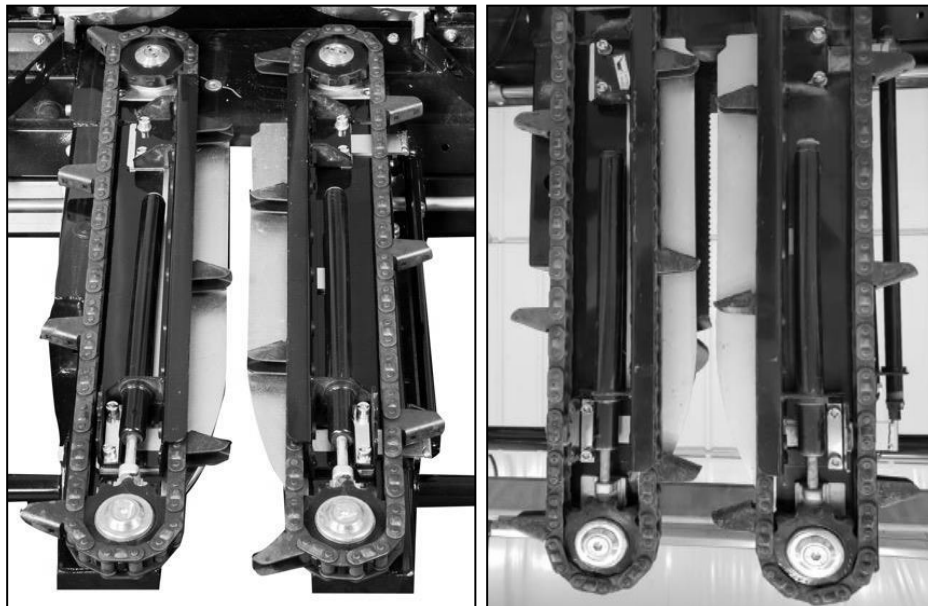

Figure 22: Gathering chains fully staggered, left, or one lug staggered (factory), right.
13.11. Check gathering chain tension and phasing (Figure 22).
13.11.1. Fully staggered (Figure 22, left), least aggressive, good conveyance.
13.11.2. One lug staggered (Figure 22, right), factory (good compromise between fully staggered and in-phase).